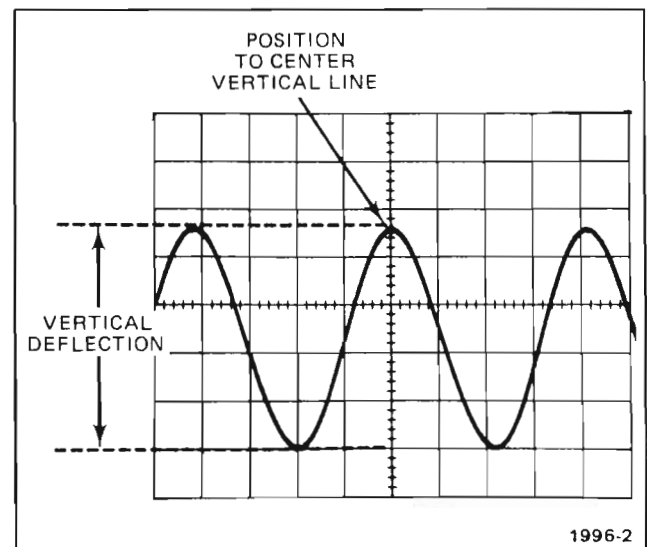

Fig. 1-2. Measuring the peak-to-peak voltage of a waveform.
5. Adjust the Amplifier unit POSITION control so the lower portion of the waveform coincides with one of the graticule lines below the center horizontal line, and the top of the waveform is within the viewing area. With the time-base position control, move the display to set one of the upper peaks on the center vertical line (see Fig. 1-2).